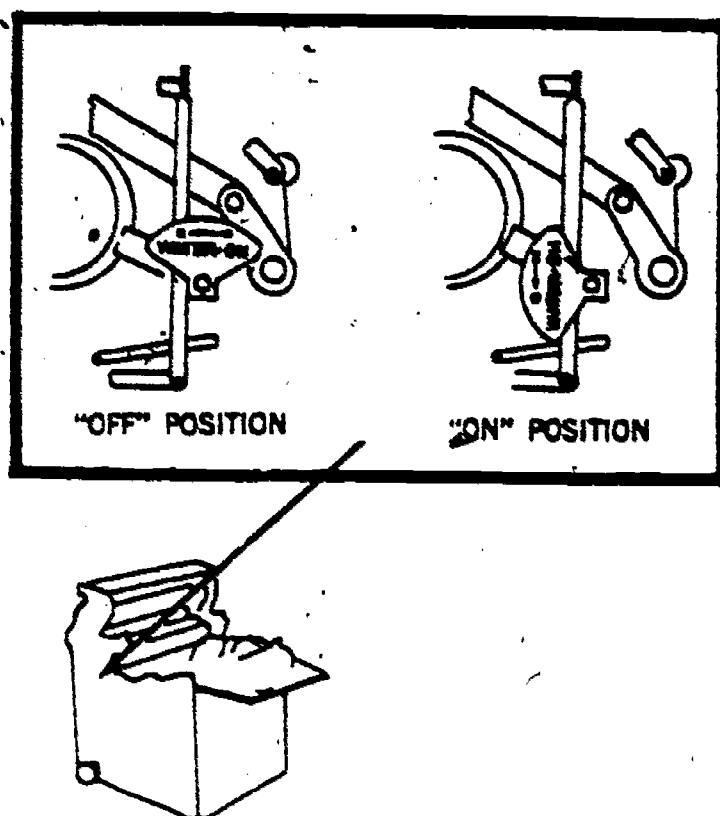
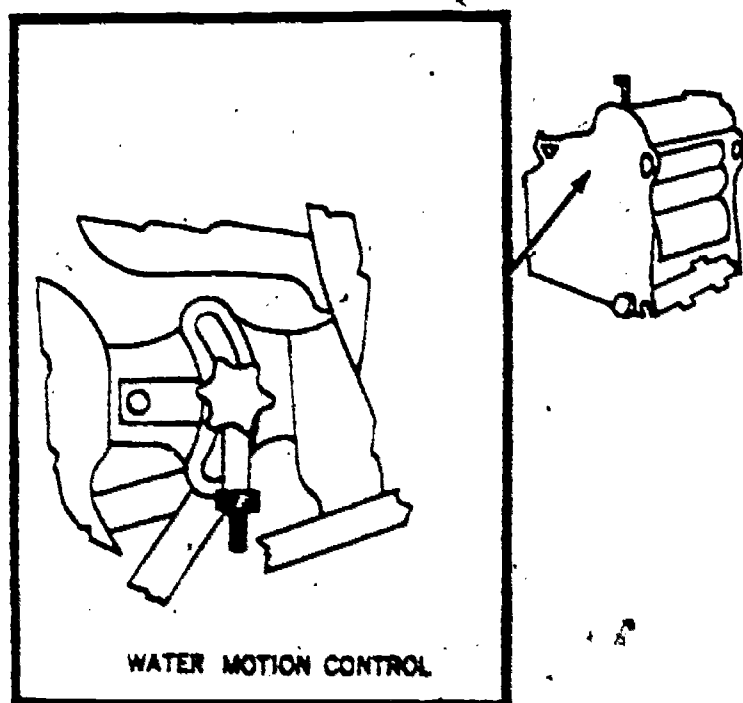

Figure 8-33. Positions of water-on lever.
Figure 8-34. Water motion control unit.
Water-on lever -----	Controls the movement of the dampener ductor roller (fig. 8-33).
Water motion control.	Governs the length of time the dampener ductor roller remains in contact with the fountain roller (fig. 8-34).
(2) In position 2, the assembly is engaged (gears are meshing), but the form rollers do not touch the plate. This position is used when wetting the assembly, idling with gum on the plate, and at various other times when the ink rollers are not in contact with the plate. This position is identified by the handle being in the bottom slot of the latch.
(3) In position 3, the entire assembly is racked back as far as it will go, thus disengaging the gears completely. This position is used when the dampening assembly is not being used, such as when the press is being cleaned or adjusted.
b. *Explaining Action of Water-On Lever.* In order to control the solution transfer from the fountain roller to the other rollers in the assembly, the ductor roller motion is controlled in two ways. One of these controls is the water-on lever. This lever, located just below the side guide mechanism and directly above the feeder valve, on the operator's side, controls the movement of the ductor roller (fig. 8-33).
(1) When the lever is in its "on" position (down), the ductor roller moves back and forth in an arc between the vibrator and the fountain roller, receiving and delivering solution while the press is running.
(2) When the lever is in the "off" position (up), the ductor roller ceases its arcing motion and simply rolls in contact with the vibrator roller, and therefore does not receive or deliver any additional solution.
(3) It is evident why such a control is necessary. When the press is idling and the fabric rollers are sufficiently damp, no more solution need be delivered. While the press is printing, the ductor roller must deliver solution to the form rollers to replenish that lost by evaporation, transfer to the plate, and to the stock. However, when the press is not printing, no solution is being used, and the solution flow must be stopped or an excess will be built up in the dampener rollers.
c. *Setting Water Motion Control Unit.* The second control for the ductor is the water motion control, which governs the length of time the ductor roller remains in contact with the fountain roller. This control is located on the gear side of the press just below the dampening assembly drive gears (fig. 8-34).
(1) By means of an adjustable cam, this de-